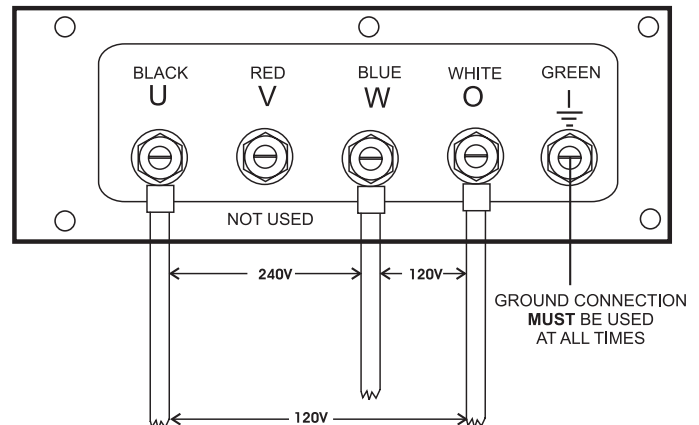

Figure 30. UVWO Terminal Lugs 1Ø-240V/120V Connections
- Connect the load wires to the UVWO terminals as shown in Figure 30.